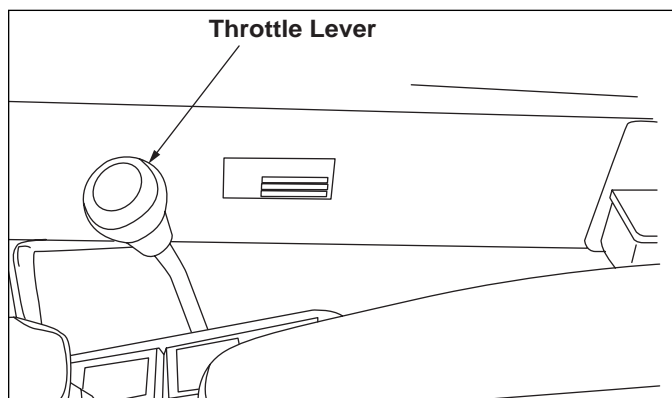

Figure 3-11. Throttle Lever
4. Push the throttle lever (Figure 3-11) fully forward.